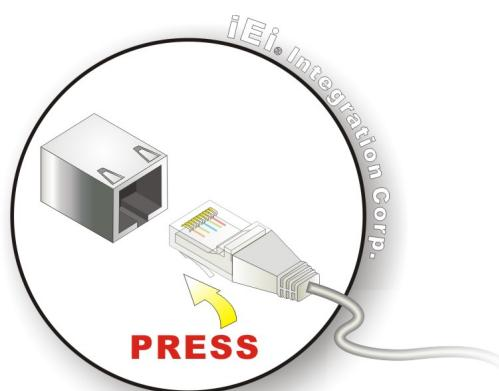

Figure 3-11: LAN Connection
Step 2: Align the connectors. Align the RJ-45 connector on the LAN cable with one of the RJ-45 connectors on the TANK-880-Q370 Series. See Figure 3-11.